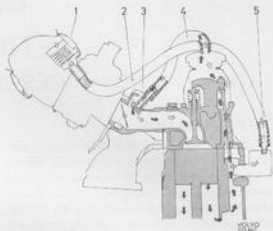

Fig. 2-23. Positive crankcase ventilation
Between the rocker arm casing and the intake manifold there is a hose (4, Fig. 2-23). It is connected to the intake manifold by means of a calibrated nipple (3). (This nipple should be cleaned every 40,000 km = 24,000 miles.) Between the oil trap, which is connected to the crankcase, and the air cleaner there is a hose (2) connected for the fresh-air supply. At the connection to the oil trap there is a flame guard (5), which consists of a metal filter. The partial vacuum which arises in the intake manifold when the engine is running, brings about a partial vacuum in the rocker arm casing and crankcase through the hose (4). Fresh air is supplied to the crankcase through the air cleaner via the hose (2).